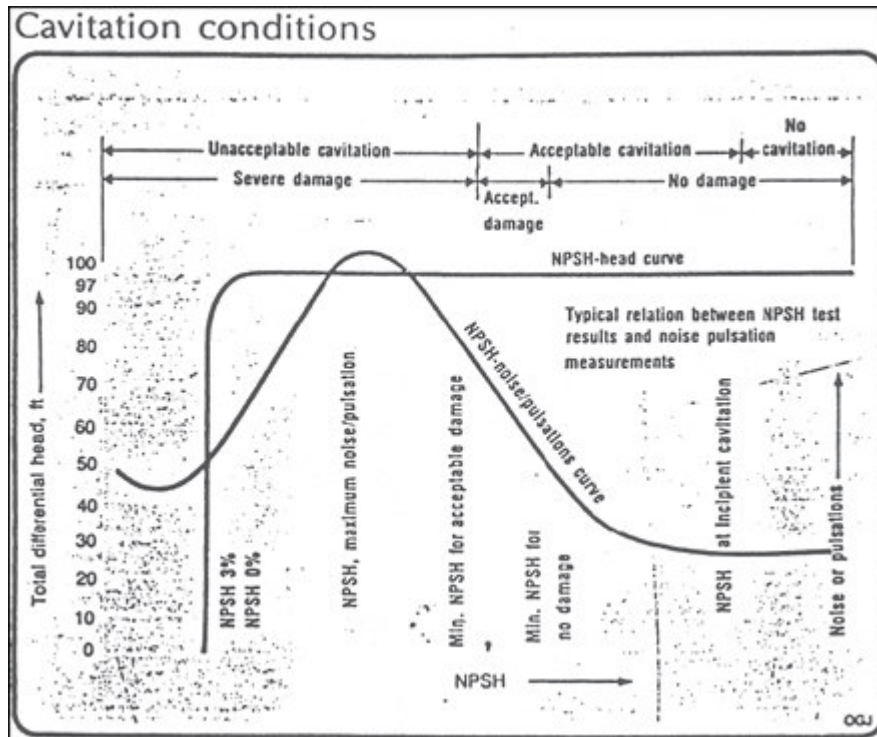

Figure 3. Pump Head & Noise as a Function of NPSHA (D.J. Vlaming [4])
Vlaming (4) came to similar conclusions, publishing the graph seen in Figure 3. The major difference is that Vlaming, while acknowledging a reduction in cavitation *noise* at lower values of NPSHA, did not acknowledge a reduction in cavitation *damage* at the lower values of NPSHA.